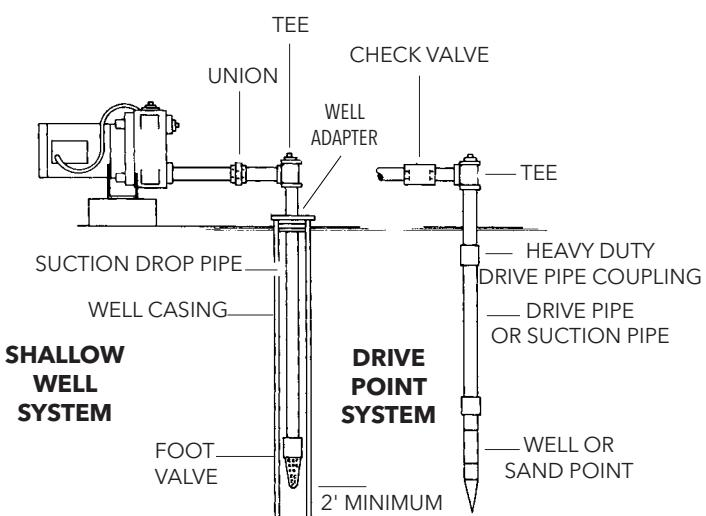

FIGURE 2
NOTICE Fittings for a shallow well installation such as foot valves, well adapters, couplings, unions and piping must be purchased separately. Your Red Jacket Jet pump can be adapted horizontally to shallow well or drive point systems. See Figure 2.
Step 1. To insure continual priming on a shallow well system, (Left-Figure 2) a foot valve must be installed. On a drive point system, (Right-Figure 2) a check valve must be installed as close as possible to the pump. Examine the foot valve or check valve to see that it is clean and seated properly.
Step 5. Attach appropriate tee or adapter at the junction of the horizontal and vertical suction pipes as shown in Figure 2. The tee can be used to clean the well.